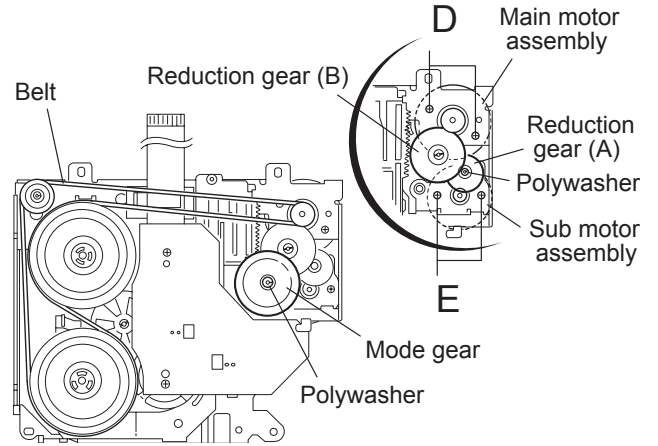

Fig.38
2.2.22 Removing the main motor assembly / sub motor assembly (See Fig.38 to 40)